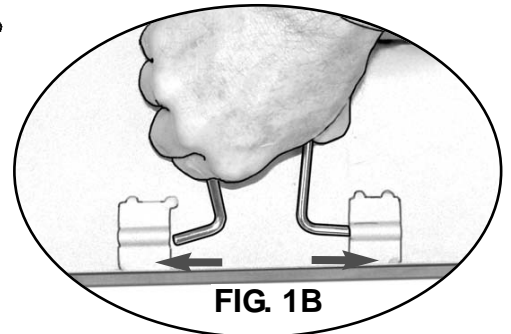
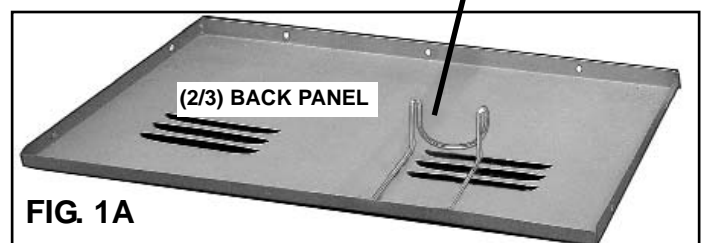

FIG. 1B
FIG. 1A
Lay Back Panel (2/3) on floor. (FIG. 1A) Attach LP Cylinder Clamp (4) to Back Panel by squeezing clamp together to fit into the two slotted openings; then release. (FIG. 1B) Make sure the large loop is down against the panel.